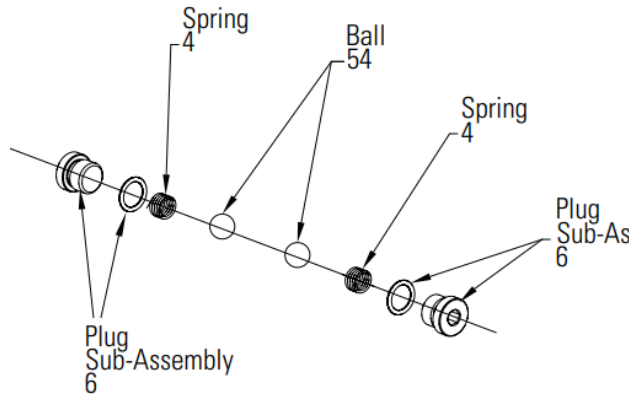

Figure 34 For Open Loop Design
2. Add ball (Qty 2) as shown Figure 34